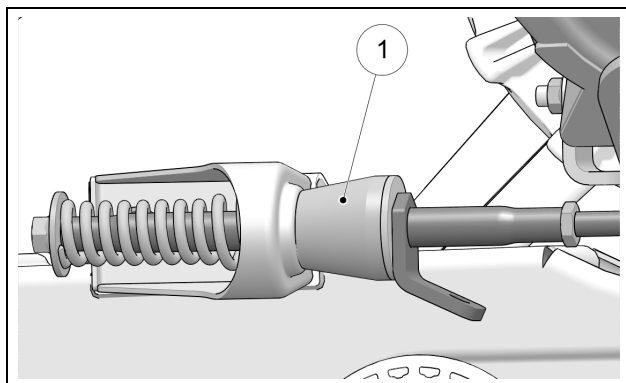

Figure 36
Check wear and damage on rubber dampers (1) mounted on the stabilizing arms. Replace them if they show cracks or are excessively worn or deformed. See Figure 36.